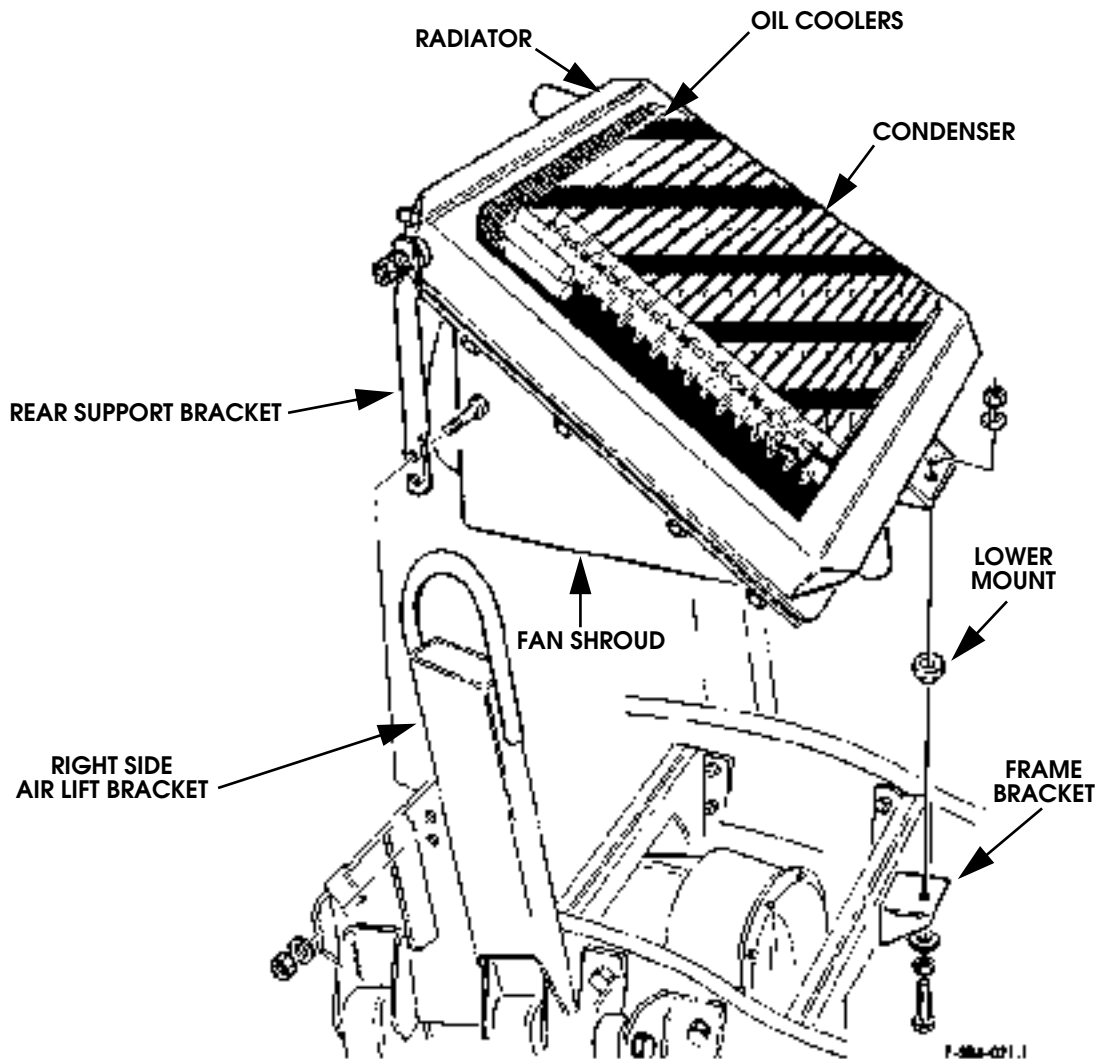

Figure 2-21: Condenser, Oil Coolers, Radiator and Fan Shroud Removal as an Assembly
7. Remove A/C condenser oil coolers, radiator, and fan shroud as assembly (Figure 2-21).
25. Install radiator and shroud (Figure 2-21). Then install air conditioning condenser and power steering fluid cooler.